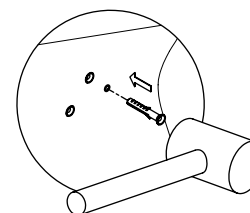

Fig. 3
- Step 3. Insert anchors into the holes until flush with wall. (Fig.3)